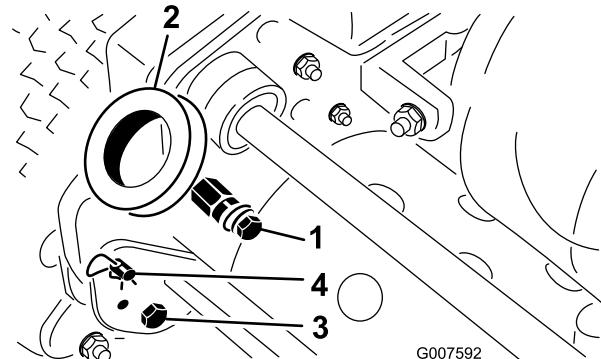

Figure 2
1. Remove the bolt, washer, and lockwasher from the mounting pin on each side of the mower (Figure 2).
2. Remove the bolts and locknuts securing the bottom of the handle arms to each side of the mower (Figure 2).
3. Remove the hairpin cotters and ring pins securing the handle arms to the rear of the frame (Figure 2).
4. Insert the handle ends thru the holes in the handle arms and align the holes with the mounting pins (Figure 2).
- While supporting the handle, remove the ring pins from each side and raise or lower the handle to the desired operating position (Figure 2).
- Remove the hairpin cotters from the ring pins on each side of the mower (Figure 2).